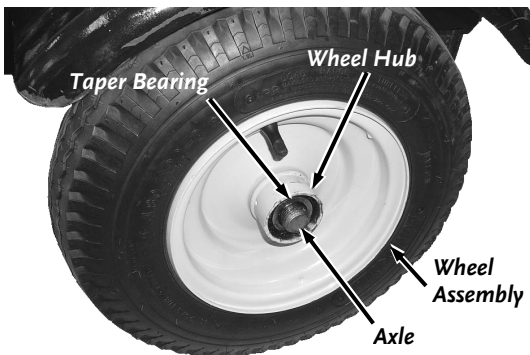

Figure 51
5. Remove the old Wheel Assembly from the Axle and replace it with the new Wheel Assembly (Figure 51).